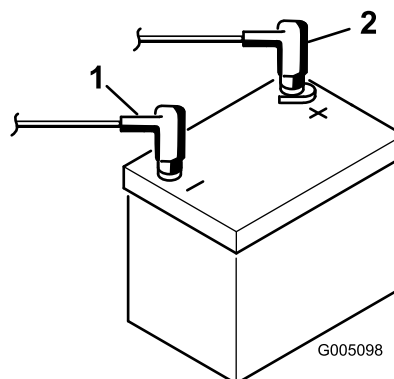

Figure 8
8. Install the positive cable (red) to the positive (+) terminal and then the negative cable (black) to the negative (-) terminal of the battery and secure them with the bolts and nuts (Figure 8). Slide the rubber boot over the positive terminal to prevent a possible short from occurring.